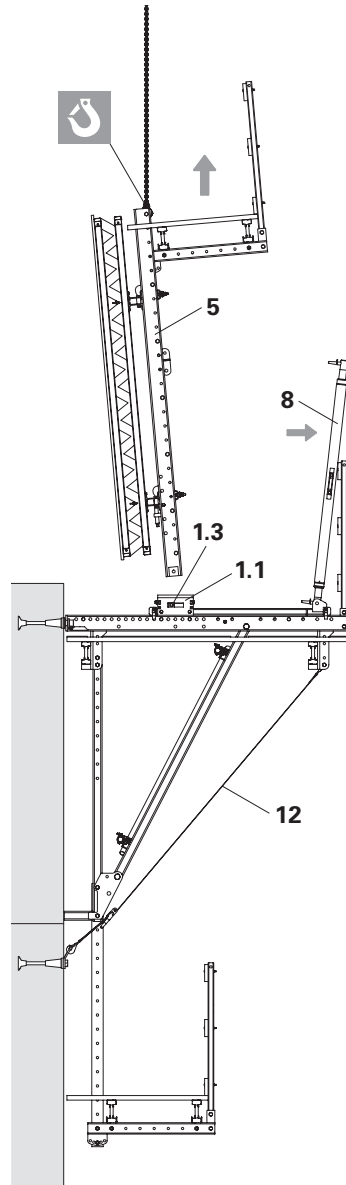

Fig. A6.01
2. Attach crane lifting gear to the Strongbacks (5).
4. Remove top Fitting Pins \varnothing 26 from the Heavy Duty Spindle (8) and then lean the Spindle against the guardrails and secure against falling.
7. Remove Heavy Duty Spindle. (Fig. A6.01)